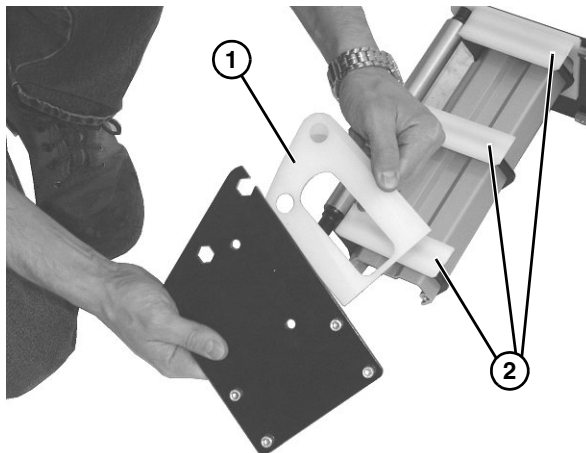

Figure 61
- Check idler terminal assembly on each side (**Figure 61, item 1**) for wear. If worn, replace.
- Remove and replace wear guides (**Figure 61, item 2**) if worn. When replacing, secure onto pins on each support plate.